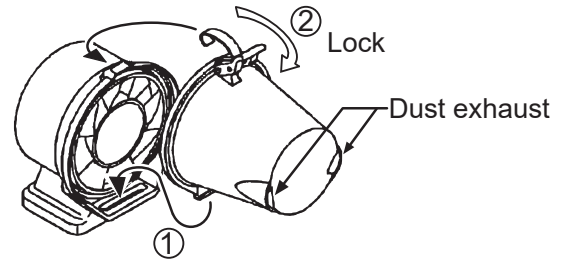

Fig.9-7
- iii) Latch up securely to return Dust Pot to Air Cleaner.(Fig. 9-7)